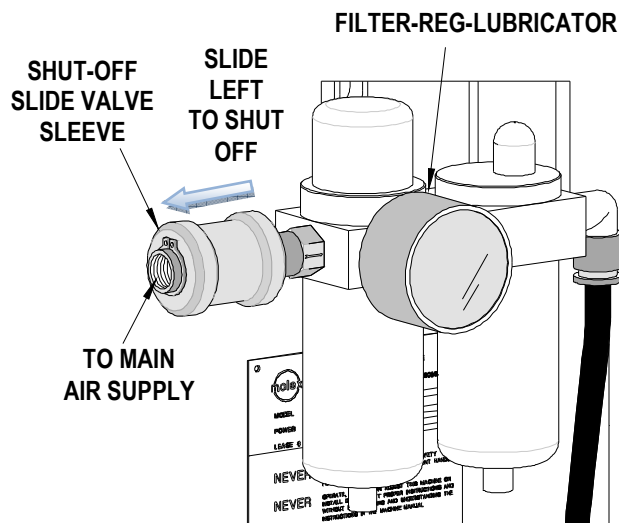

Figure 3-2
## 2.4 Pneumatic Supply Hook-Up (See Figure 3-2 and 3-3)
10. Disconnect the air supply to with the press by sliding the shutoff valve sleeve to the left as shown in Figure 3-2. Remove the plugs from the fittings on the air valve. Do not discard the plugs; when the air applicator is not being used, the fittings should be plugged.
**Note:** When not using an air feed applicator always shutoff the air supply to the filter-regulator-lubricator by sliding the shutoff valve sleeve to the left, the opposite direction of the airflow, as shown in Figure 3-2.